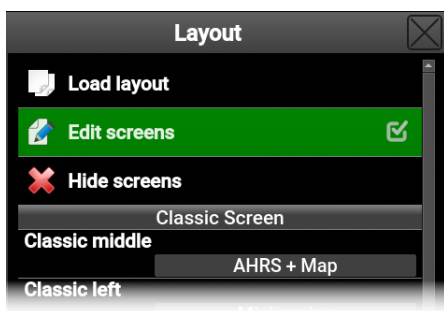

Figure 83: Option that must be enabled before screen editing.
2. Check the **Edit screens** options, see Figure 83.